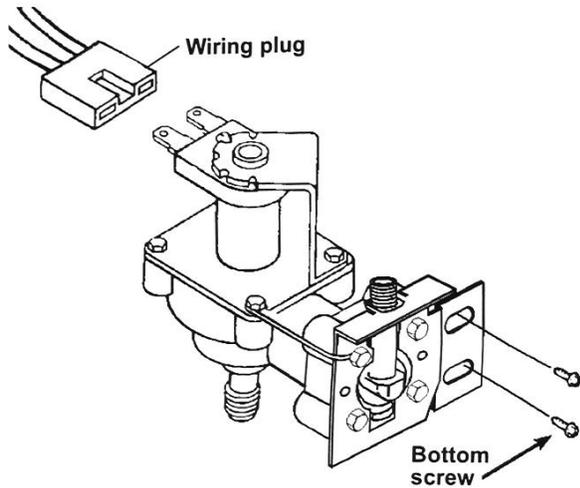

Figure 5
9. Attach wiring plug to new valve assembly. Attach valve assembly to the cabinet rail, using the screw provided in the kit. In some older models, the bottom screw hole must be added to properly mount the valve assembly. A 1/8" hole must be drilled to the cabinet rail to install the second screw. See Figure 5.